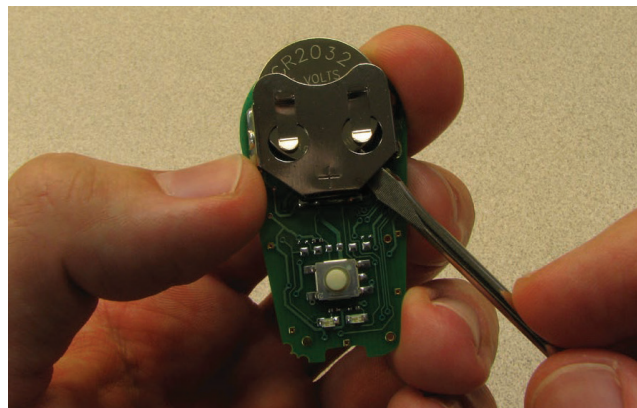

Figure 3: Remove Battery
3. Remove the CR2032 battery from the circuit board by pushing through the bottom. See Figure 3. **Be careful not to damage the circuit board.**
4. Replace the battery with positive face oriented upward. Push the battery in until fully seated. See Figure 3 for reference.